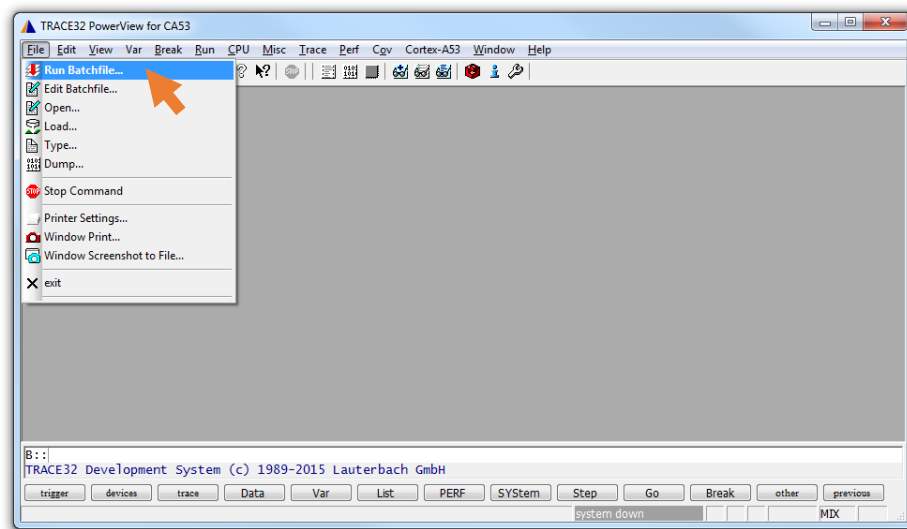

Figure 5 Running the script for application start
5. Run the script in `s32v234/demos/*/build-v234ce-gnu-sa-*/*.cmm` to run the specific demo (Figure 5)